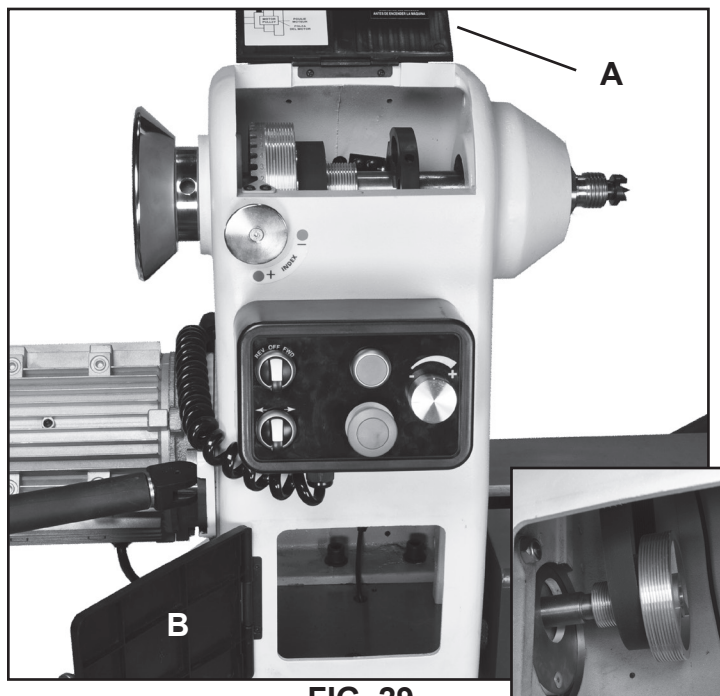

FIG. 29
2. Open the 2 Belt Doors to gain access to the belt and pulleys that are inside of the headstock. FIG. 29, A & B.